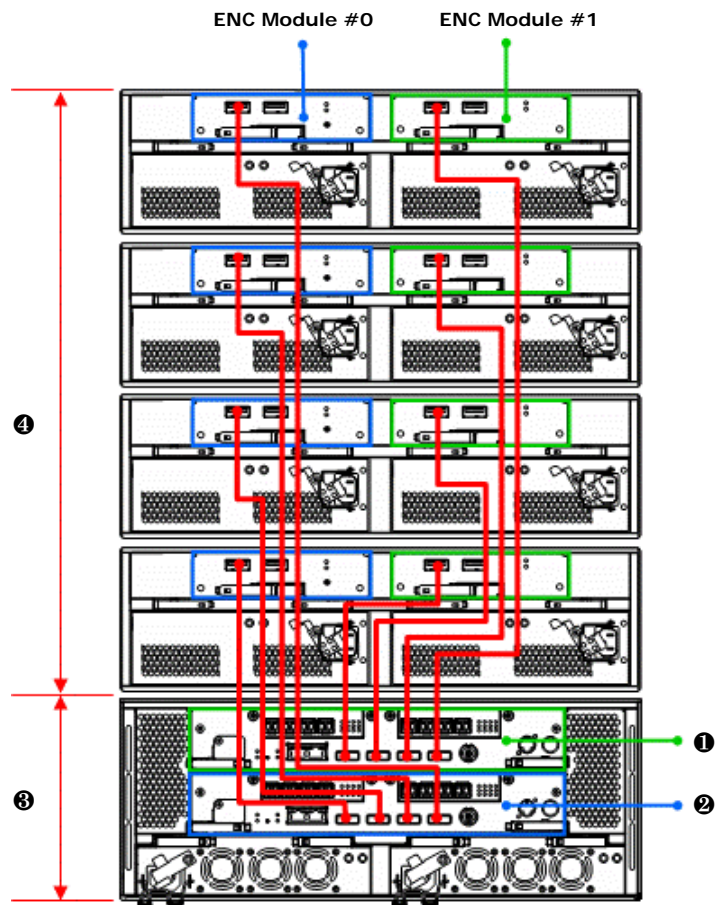

Figure 1-7: Example of Connecting Expansion Units
- c. To connect additional expansion units, follow the pattern in Figure 1-7 on page 12.